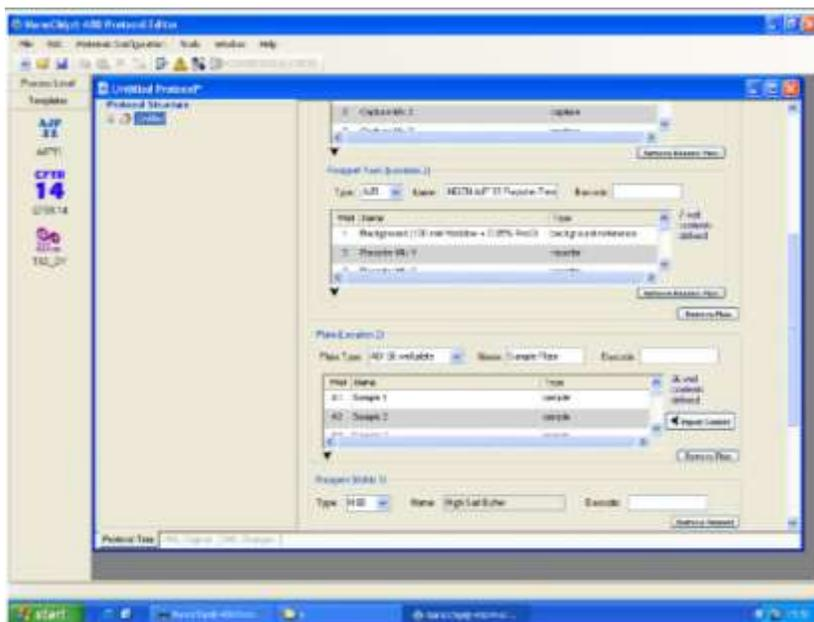

Figure 5. Protocol Editor Screen
7. Click on the run name you entered earlier (located under protocol structure). If no name was inserted it will appear as "untitled". **Scroll to 'Plate location 2'** (See figure 5). Here you can either write down your samples names or import it from an excel sheet. LIS connection is also optional.